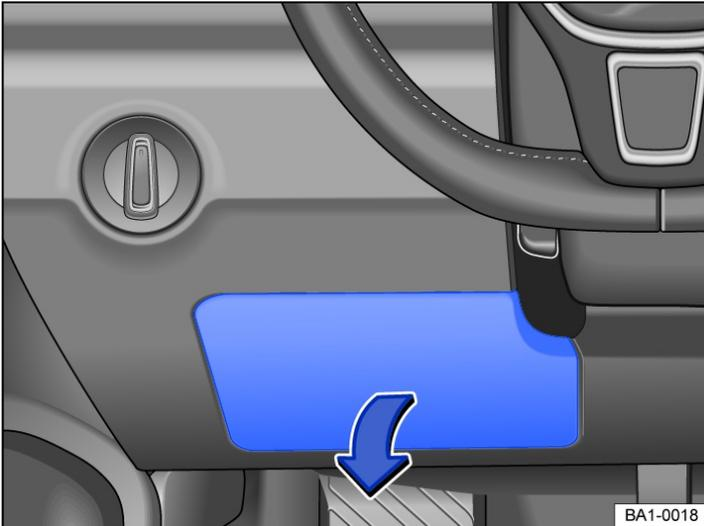

Fig. 1 In the dash panel on the driver side: fuse box cover (left-hand drive vehicle).
1. Reach behind the cover and pull off in the direction of the arrow → *Fig. 1*.